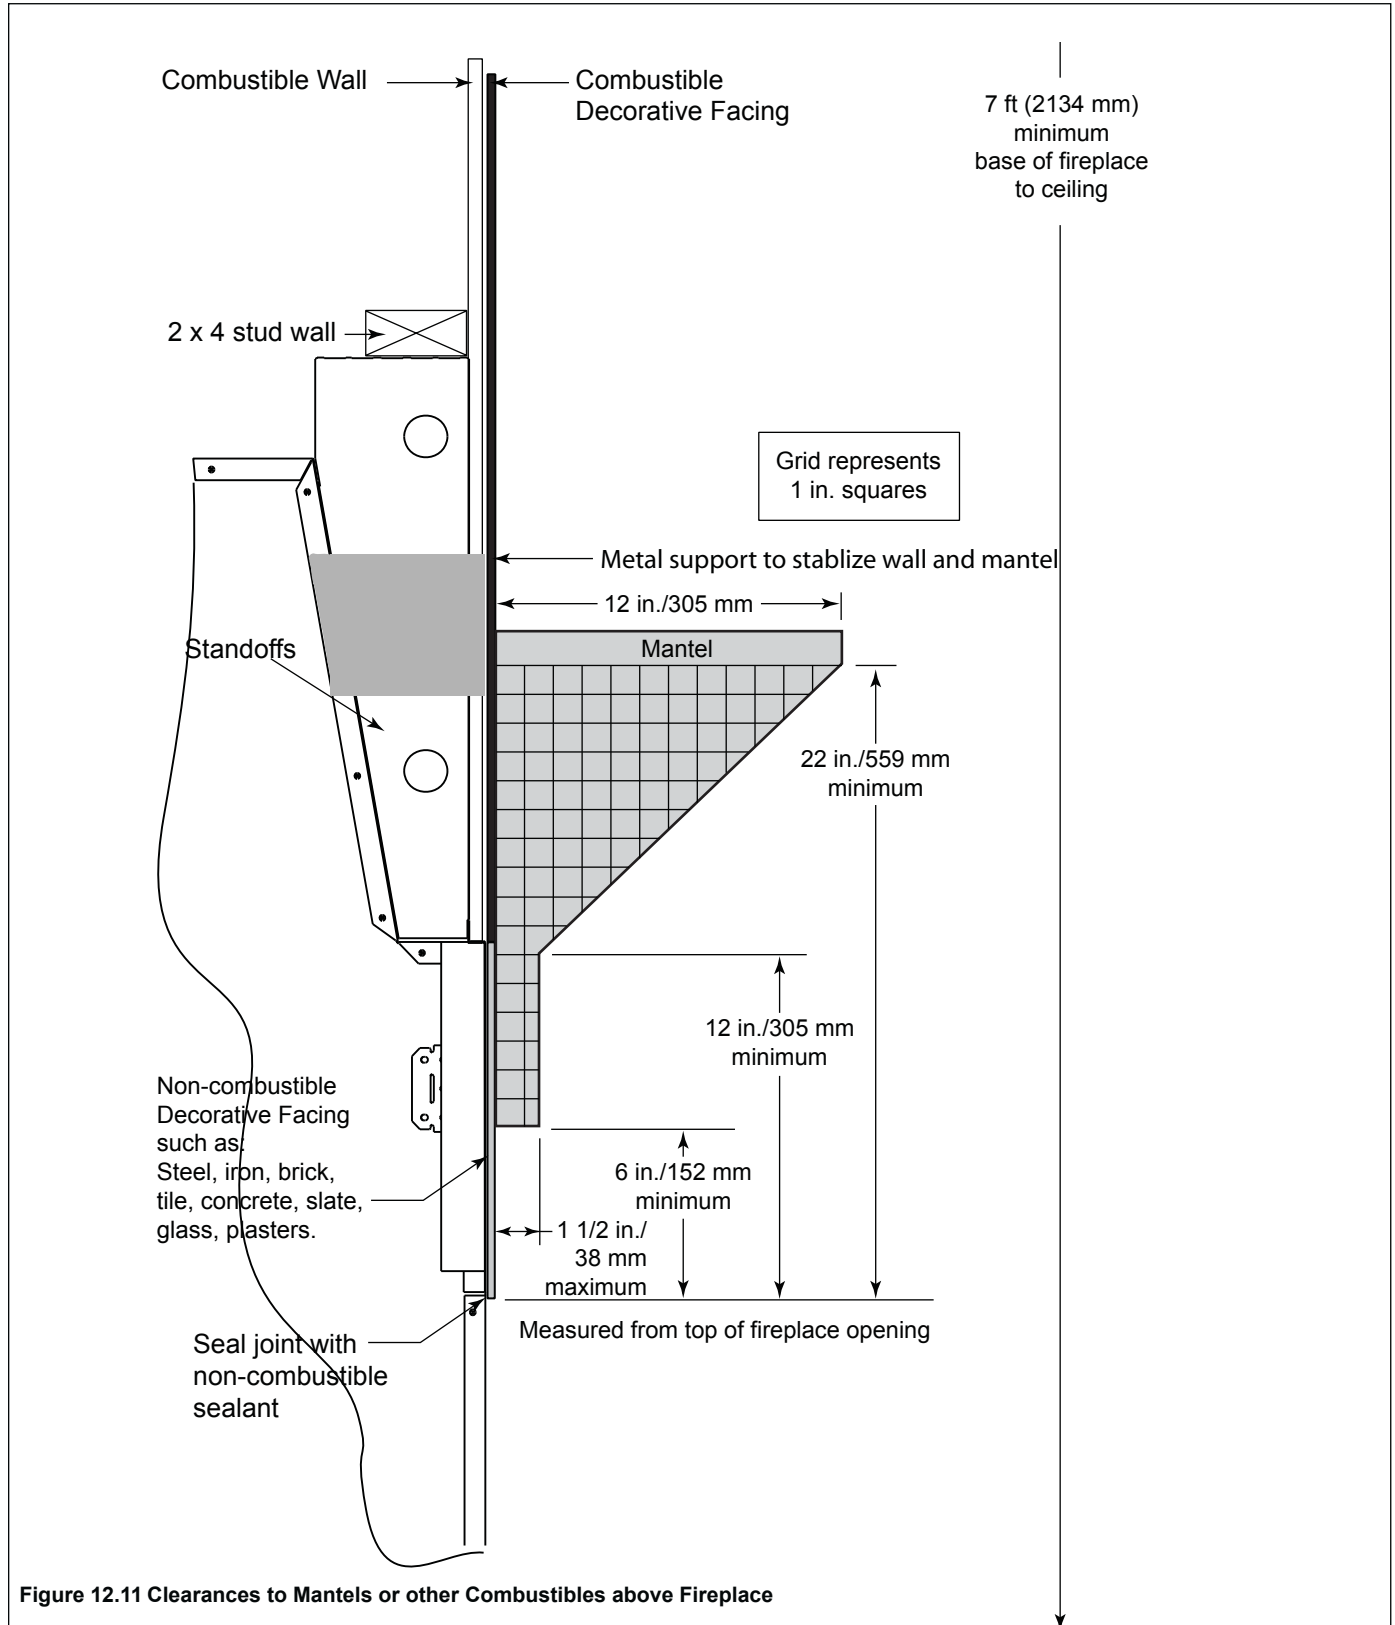

Figure 12.11 Clearances to Mantels or other Combustibles above Fireplace
- Refer to the shaded area of Figure 12.11 for the location and dimensions of a combustible mantel.